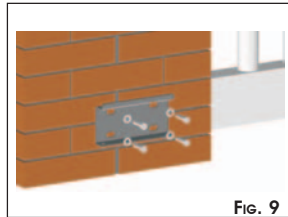

Fig. 9
- ③ Secure the rear bracket in the position you had established, using four M8 screws. As you secure the bracket, respect the lay-out in Fig. 9 and check, using a level, if the bracket is horizontal.